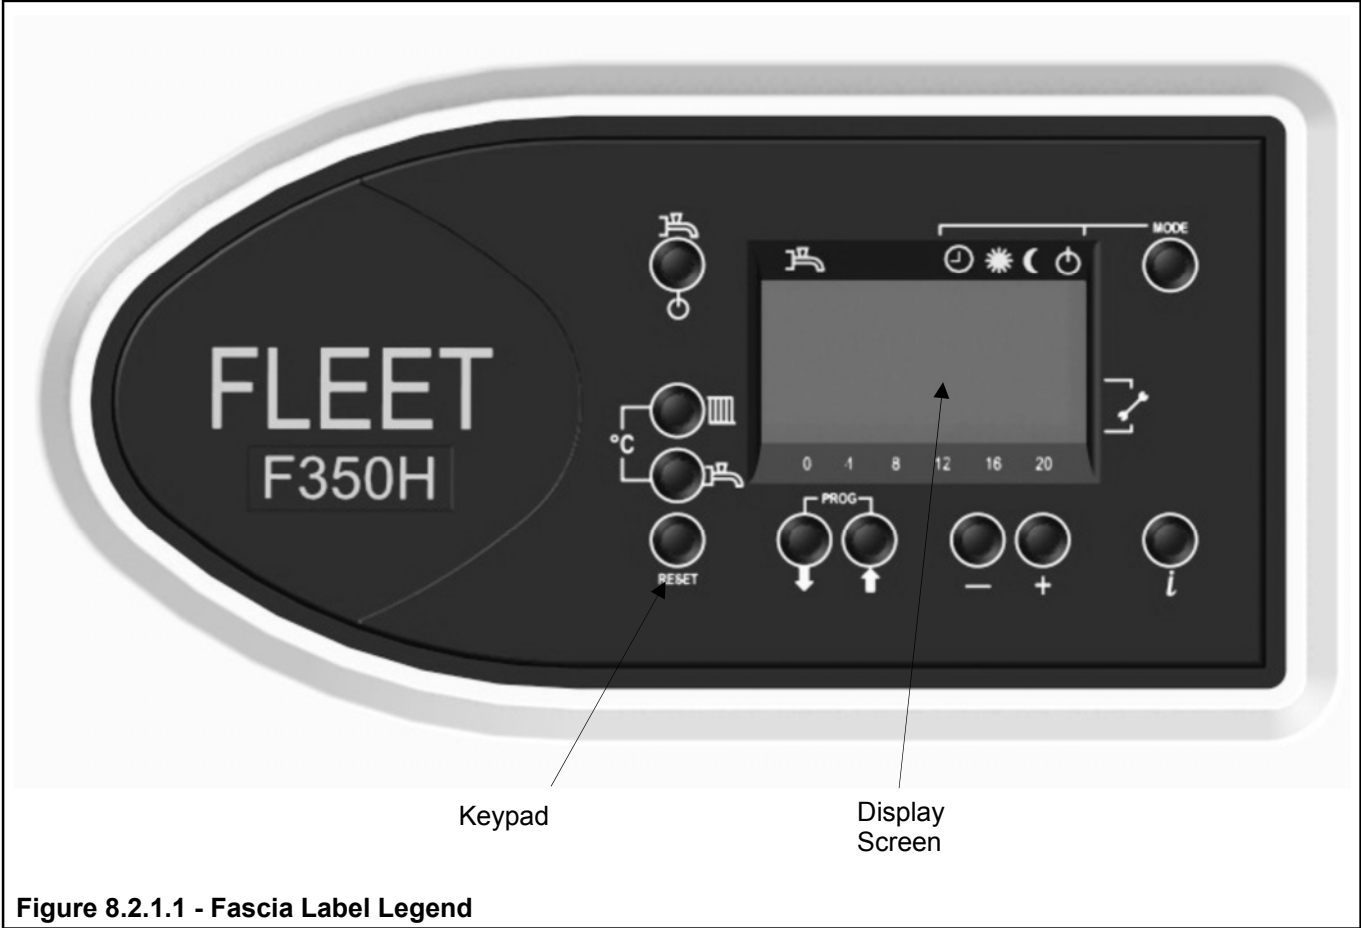

Figure 8.2.1.1 - Fascia Label Legend
8.2.1 - Info button - refer to figure 8.2.1.1